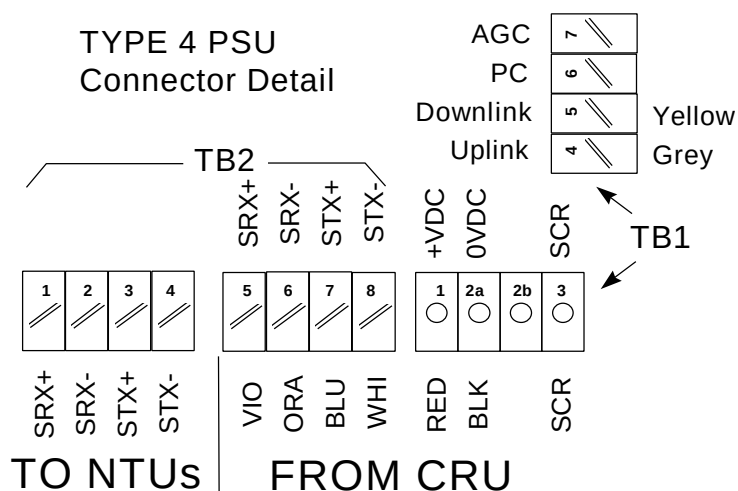

Figure 38. ST-I1 Drop Cable Connections to Type-4 PSU
1. At the PSU punch down the wires of the drop cable, to the IDC terminal blocks (TB1 & TB2) using an Auto Trim Termination Tool and connect the DC and screen to the Wago block . The Figure 38 below, illustrates the connections of the drop cable to the connector blocks inside the PSU.